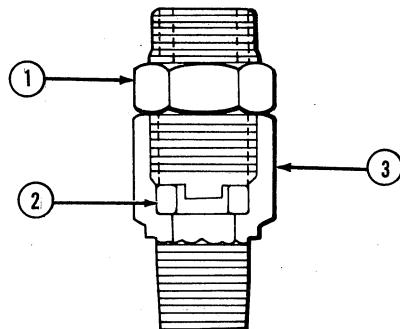

Figure 9
Variable flow restrictors are used in both the lift and swing circuits. The valve contains a loose fitting restrictor plate (2), Figure 9, which is free to slide in its bore. One side of the plate is flat and the other side has a slot in it. When oil is flowing against the flat side, the